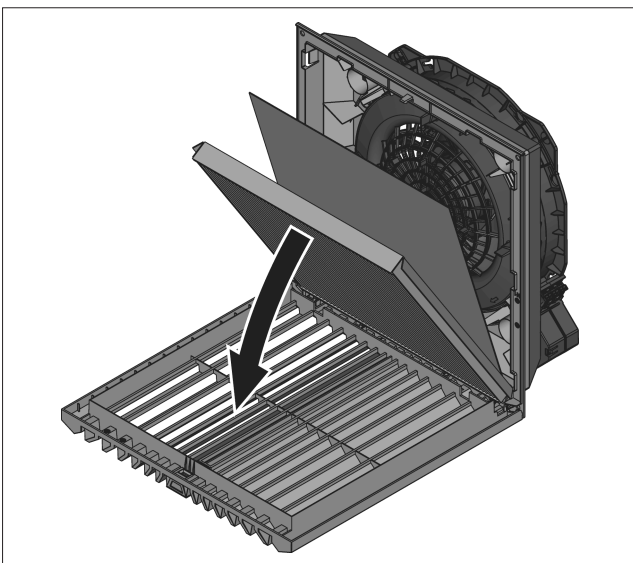

Fig. 16: Installing the IP55 pleated filter
- For IP55 only: Place the IP55 absorber mat supplied with the pleated filters on the previously placed pleated filter (see fig. 16). The installation direction of the absorber is not critical.